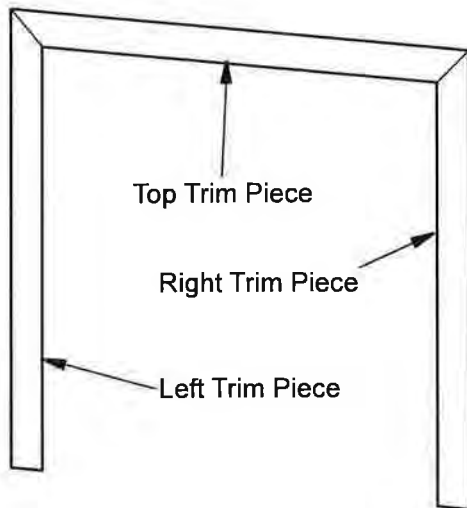

Figure 18 - Decorative Trim
1. Identify left, right and top decorative trim pieces (see Figure 18).